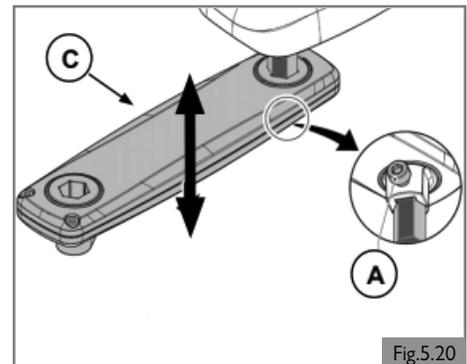
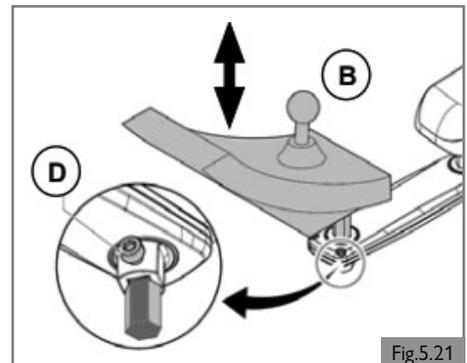

Fig.5.20
Fig.5.21
1. Loosen (A) by one turn.
2. Adjust (B) to the desired position.
3. Tighten (A). See section 8 for specified torque values.
Height of the controller (1) (Fig. 5.20)
2. Adjust (C) to the desired position.
Height of the controller (2) (Fig. 5.21)
1. Loosen (D) by one turn.
3. Tighten (D). See section 8 for specified torque values.